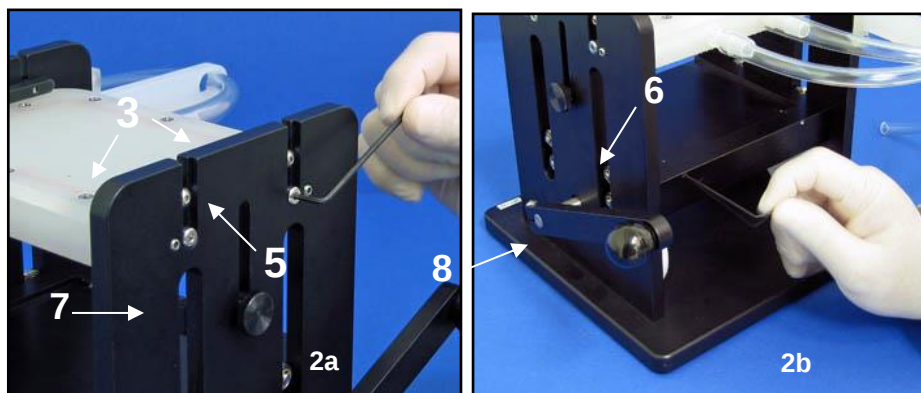
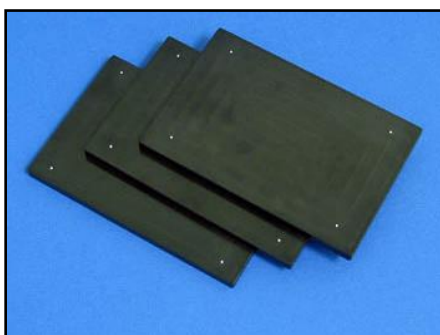
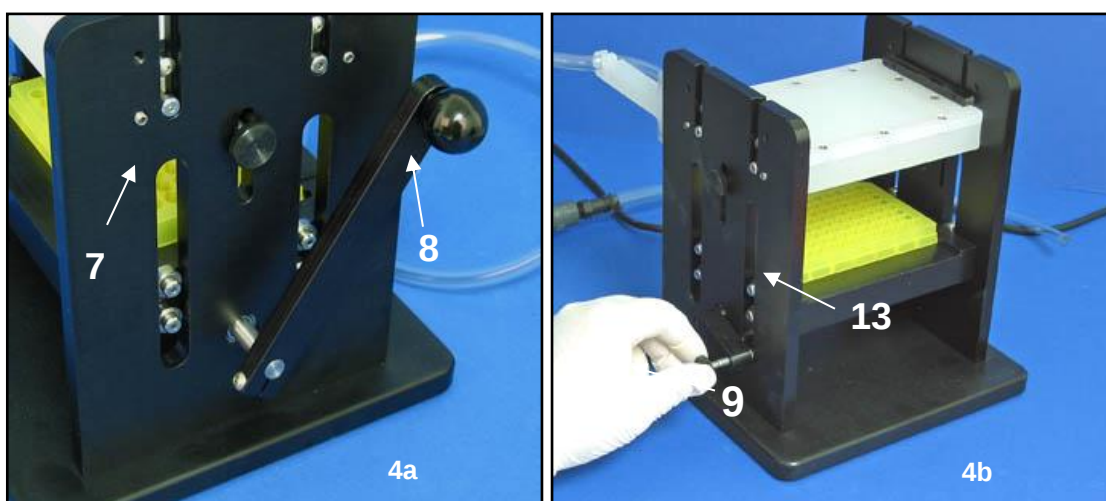

Figure 2: Securing Manifold in Jig (a). Adjusting X (a) and Y (b) Positions.
Figure 3: Registration Plates For 96, 384, and 1536 formats
Figure 4: (a) Adjusting Z Bar Stops. (b) Adjusting Nylon Pressure Screw for Z Arm control.
3. For more precise positioning use one of V&P's Registration Plates as shown in (Figure 3). Place the Registration Plate into the Microplate Platform (13) where the microplate would go and push against the back wall. Pull the Z Arm Lever (8) down until the Manifold tubes are just over the Registration Plate. Tighten the Z Arm Nylon Press Screw (9) to hold the Microplate Platform (13) in position (Figure 4). Line up the white 1mm corner spots of the Registration Plate with the corner tubes on the Manifold. This is done by using the provided 0.5 Allen wrench to adjust the X and Y Position Screws (5 and 6) as shown in Figure 2.